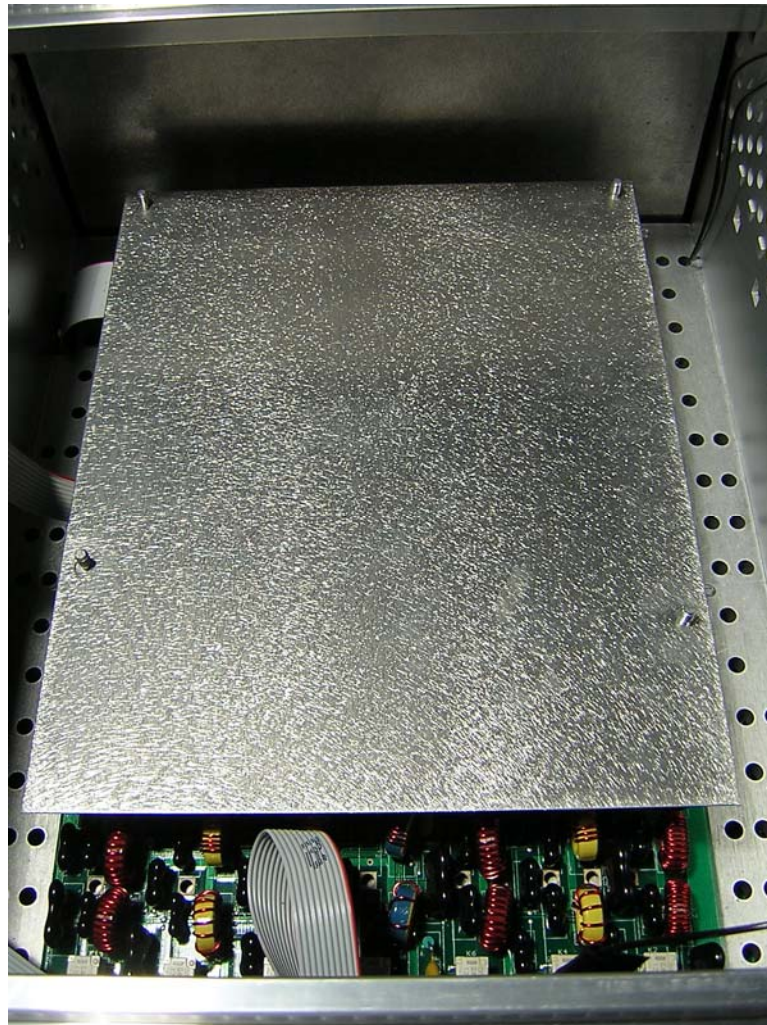

Figure 2 - Placement of RF shield on top of 1" spacers
Step 8. Locate the metal RF shield, and observing the orientation of the mounting holes, place the shield on top of the 1" (2.54 cm) spacers with the spacer threads protruding from the tops of the metal RF shield. (See Figure 2)